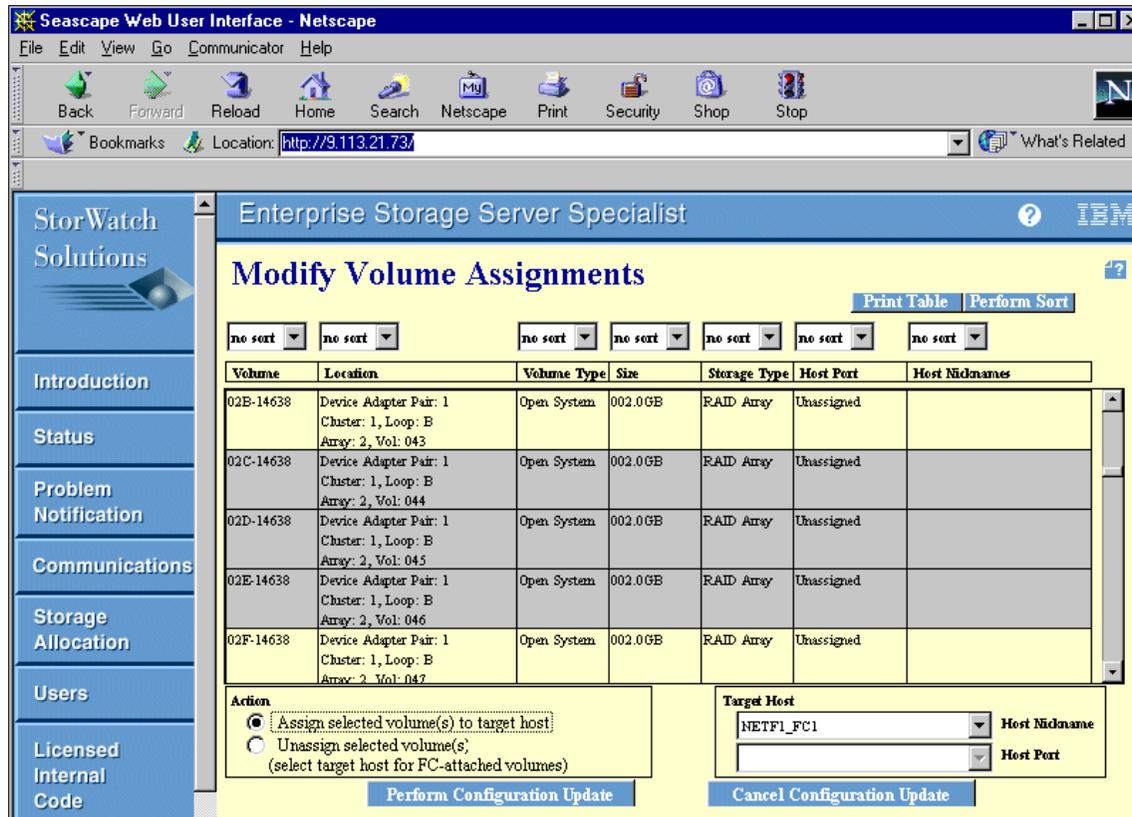

Figure 13. Modify Volume Assignments screen
3. Click **Modify Volume Assignments** (Figure 13).